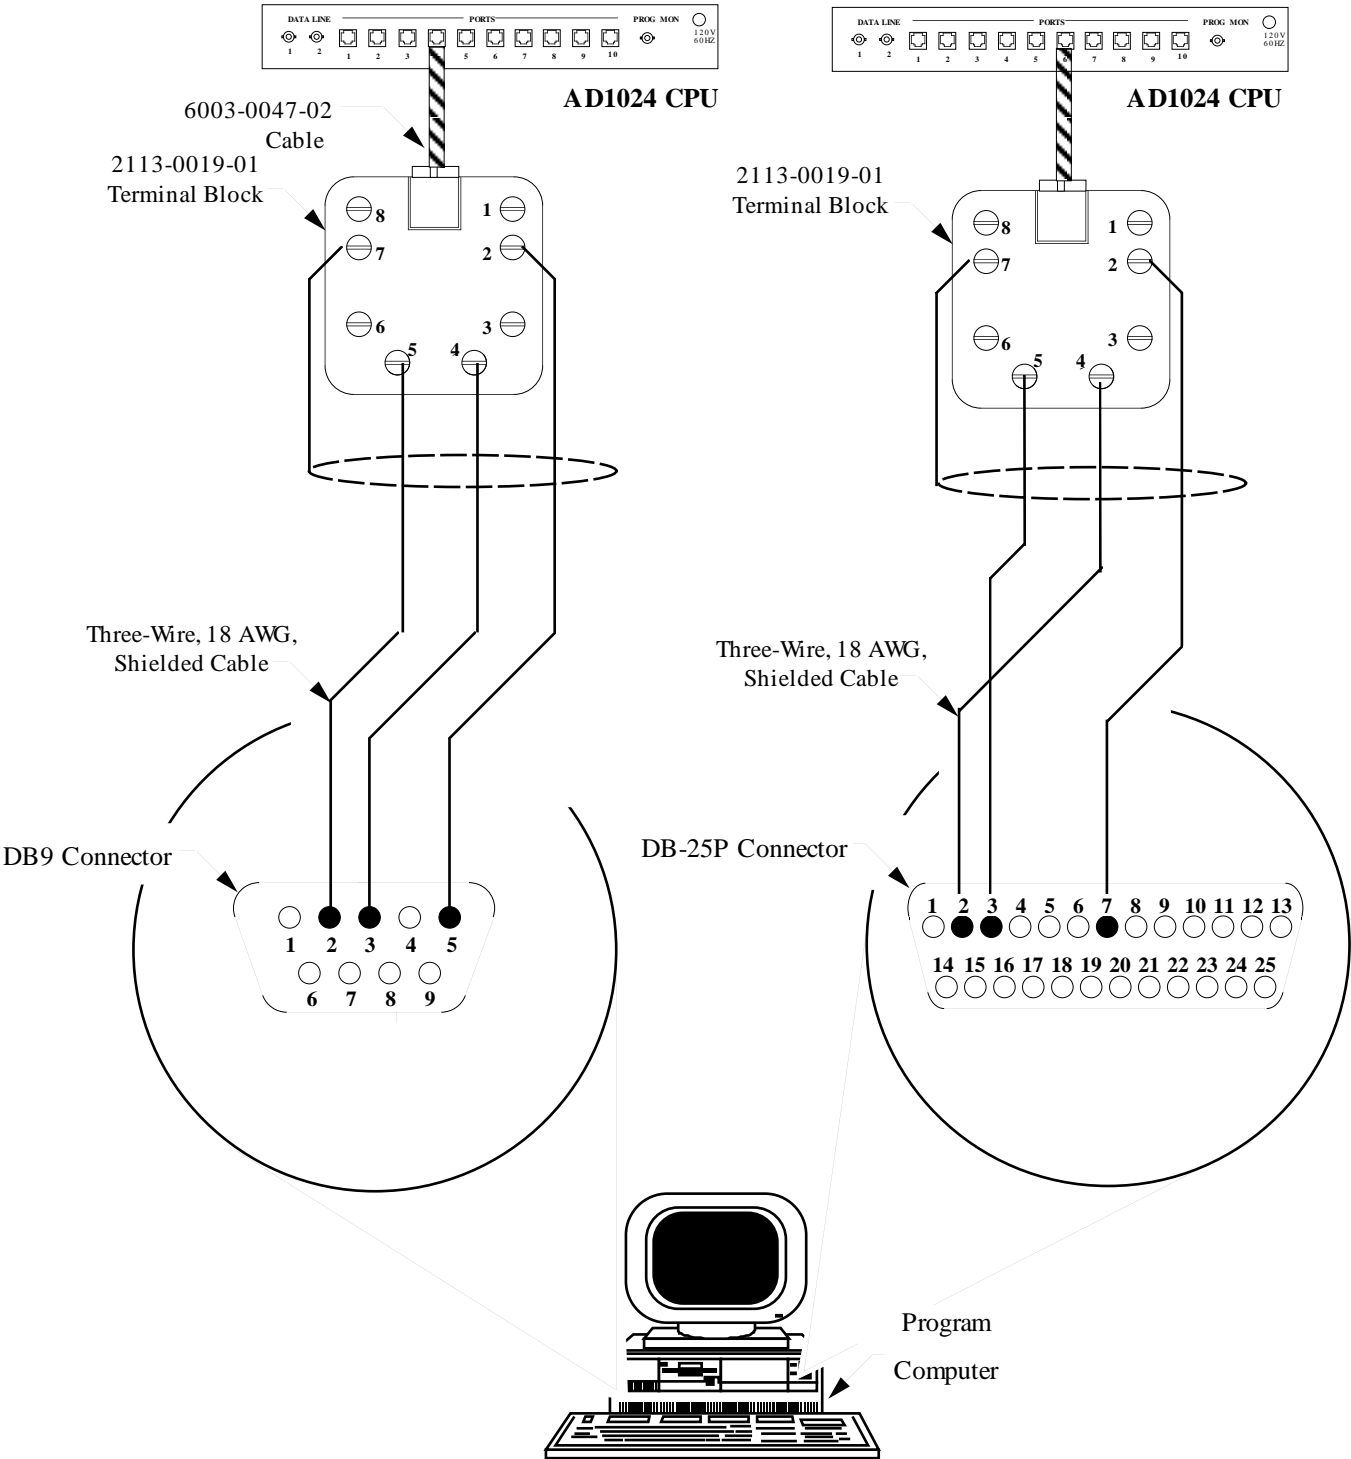

Figure 26 - Program Computer -to- AD1024 Connection
1. Connect a modular cable between one of the AD1024 CPU control ports and terminal block 2113-0019-01 (see Figure 26).